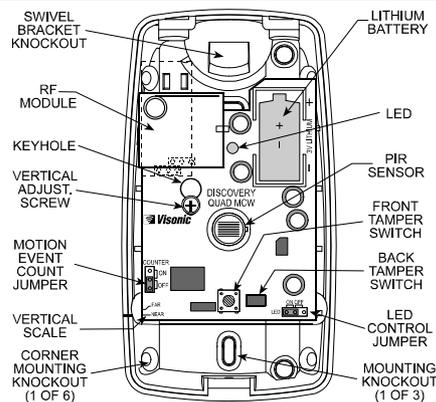
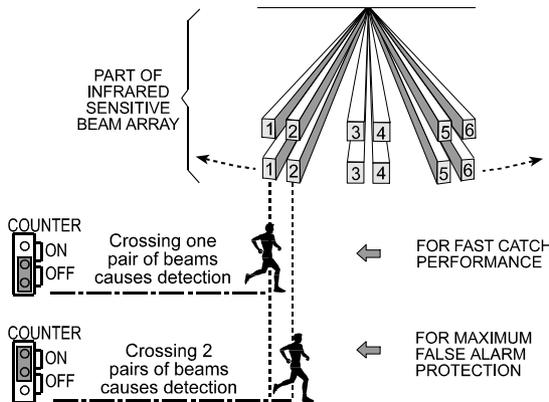

Figure 4. Inside View
Figure 9. Motion Event Counter Setting Options
2. Insert the battery into the battery clip - observe polarity (see Figure 4).
2. Loosen the vertical adjustment screw, slide the PCB down and remove it via the "keyhole" (see Figure 4).
The location of the motion event jumper is shown in Figure 4. Refer to Figure 9 below and mount the jumper as desired.